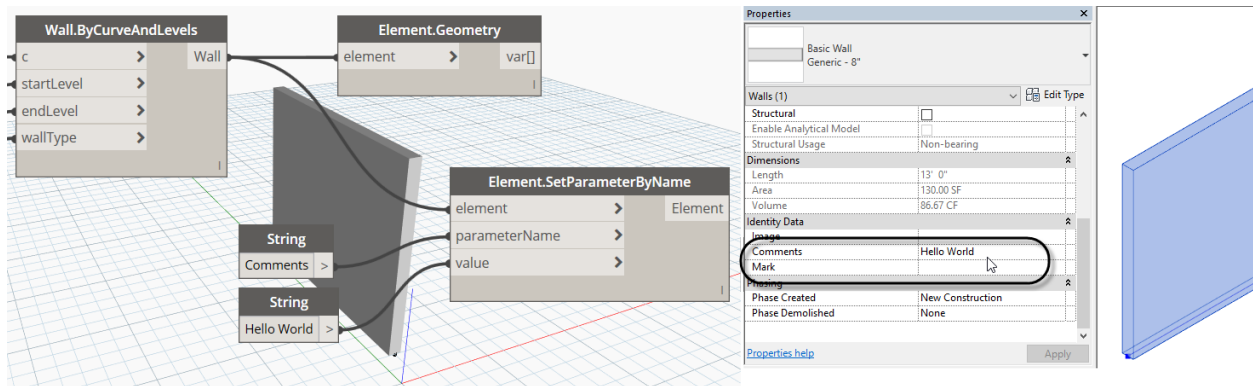

Figure 24
35. Wire the output from the *Wall.ByCurveAndLevels* node to the *element* input on the *SetParameterByName* node (see Figure 24).